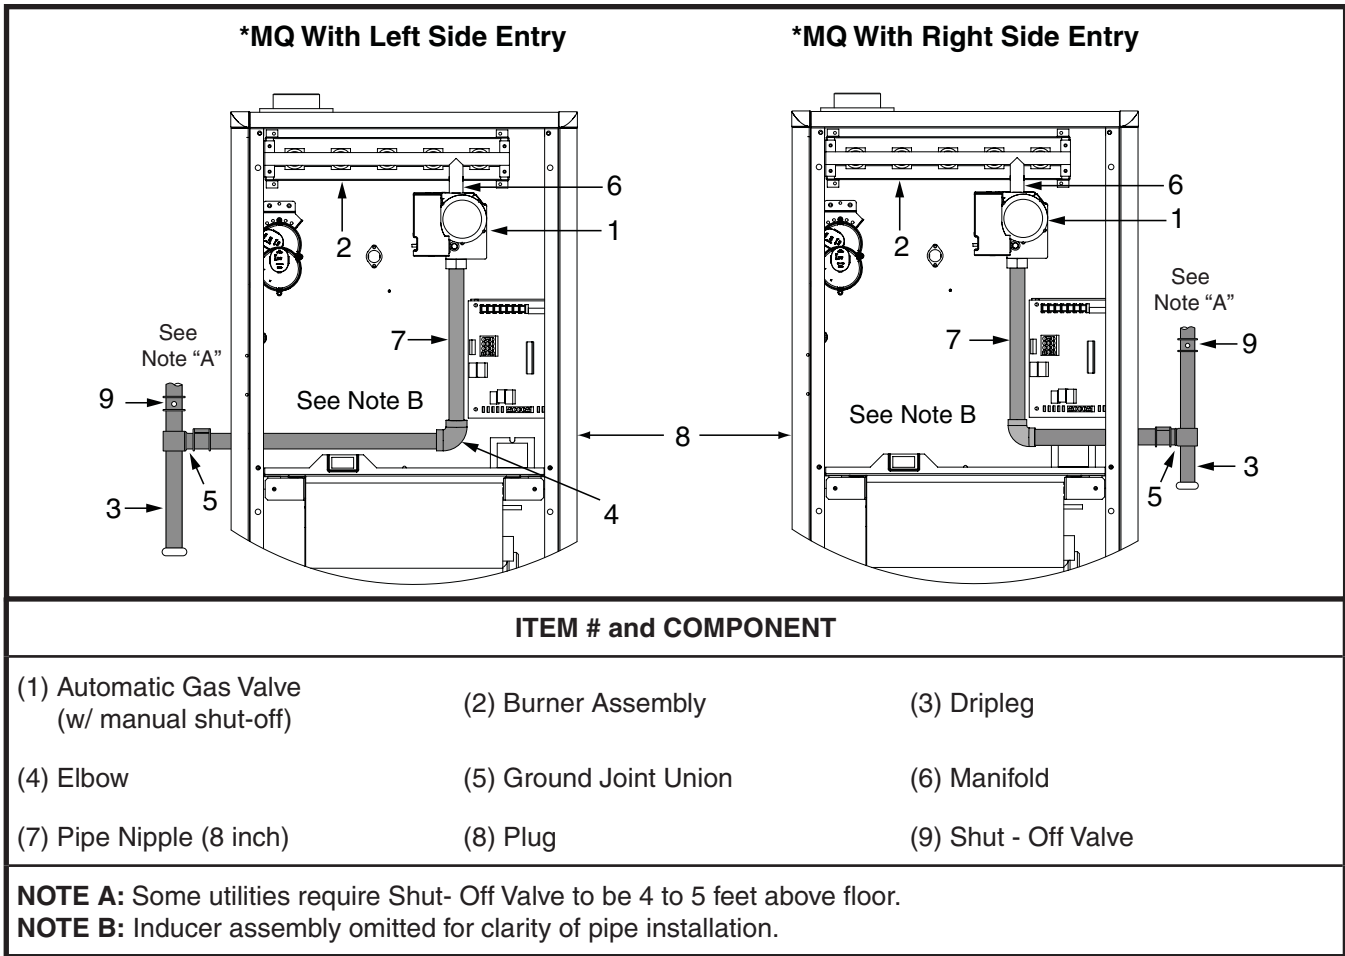

Figure 18. Typical Gas Connections
- Some local regulations require the installation of a manual main shut-off valve and ground joint union external to the furnace as depicted in Figure 18 (page 21). The shut-off valve should be readily accessible for service and/or emergency use. Consult the local utility or gas supplier for additional requirements regarding placement of the manual main gas shut-off.
- A drip leg should be installed in the vertical pipe run to the unit as shown in Figure 18.
The furnace may be installed for either left or right side gas entry. When connecting the gas supply, provide clearance between the gas supply line and the entry hole in the furnace casing to avoid unwanted noise and/or damage to the furnace. A typical gas service hookup is shown in Figure 18.